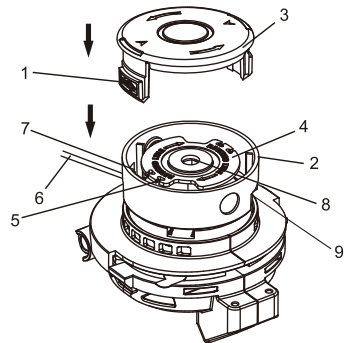

Fig. 15
2. Pull the loose end of the trimmer line out of the retaining slot (5) in the spool (Fig. 15).
- Carefully wind the trimmer line onto the spool evenly to avoid overlapping wraps that will cause further jamming (Fig. 15).